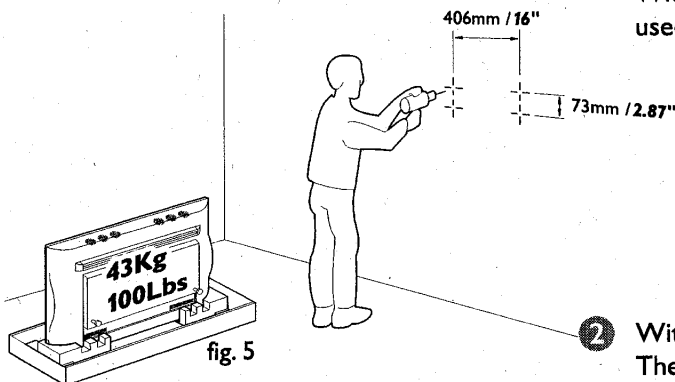

fig. 5
- 1 Determine desired location to mount Display Unit. Within this area, locate the two 16" spaced wall studs that must be used as the Wall Bracket mounting location. (Fig. 5 and 6)
- 3 Remove the Wall Bracket, and using a 5/8" masonry drill bit, drill the four holes. (fig. 5)